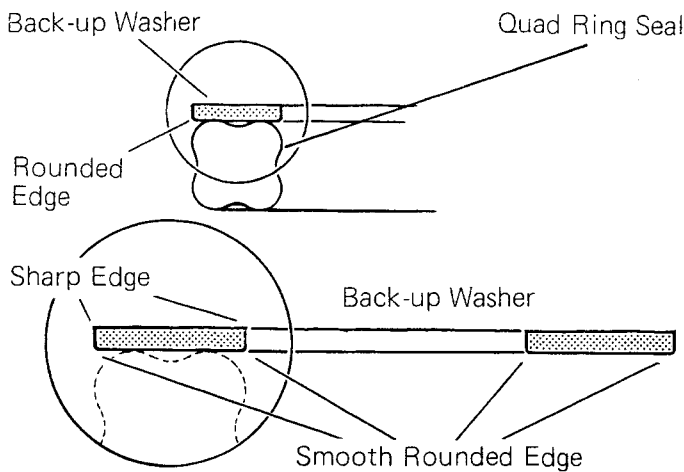

Figure 14
**Note:** The back-up washer has a smooth rounded edge on one side. Install washer with smooth rounded edge toward seal, see Fig. 14,